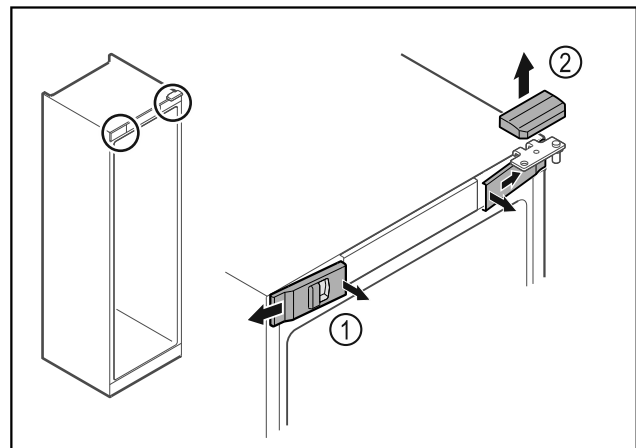

Fig. 12
- ▶ Unlatch the front covers Fig. 12 (1) on the inside and remove them sideways.
- ▶ Lift off the upper cover Fig. 12 (2).